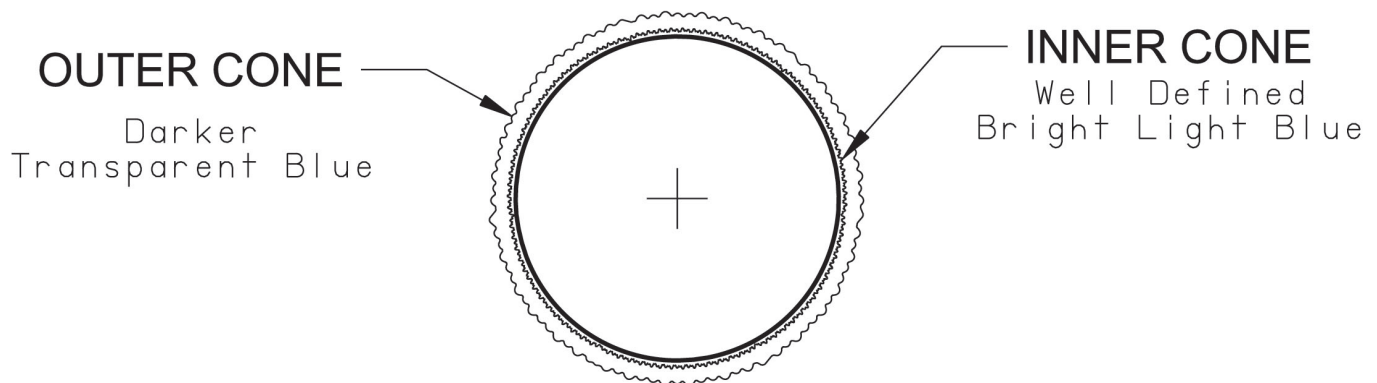

Figure 11.3: Burner Flame
14. Inspect the flame visible through the window. On high fire the flame should be stable and mostly blue (Figure 11.3) No yellow tipping should be present; however intermittent flecks of yellow and orange in the flame are normal.